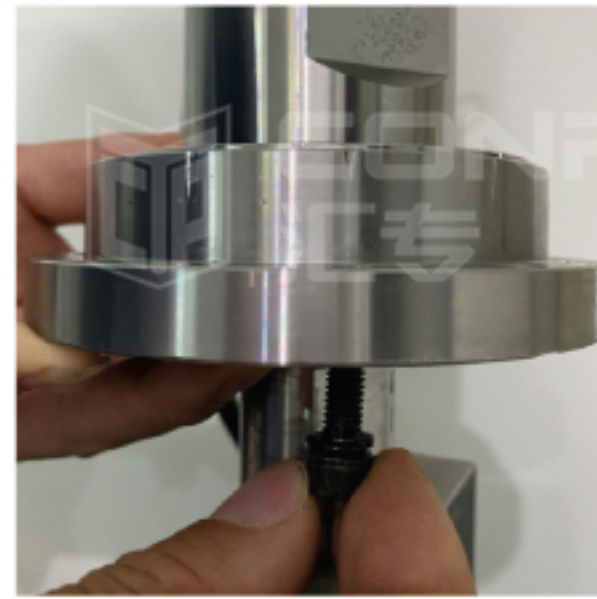

Figure 9
(7) Tighten up the screws in proper order from the bottom up and then pre-lock the screws first, but don't lock them too tight. (As shown in Figure 9).